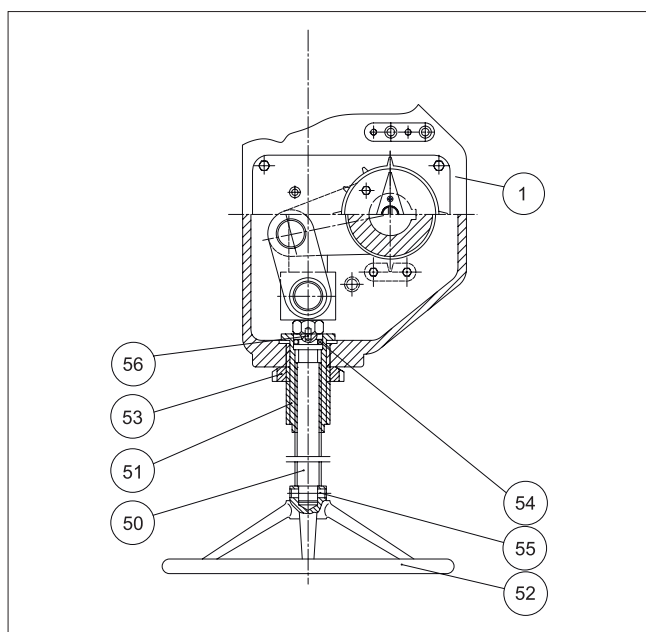

Fig. 24 B1JAR actuator
can be changed into a B1JAR by replacing the housing (1) and adding parts (50 to 56), see Fig. 24.
If stiffness or noise occurs when the actuator is operated with the handwheel, check the condition of the bearings (56), see Fig. 24. Other maintenance as described for the B1JA actuator in Section 4.2.
Parts list for Fig. 24: